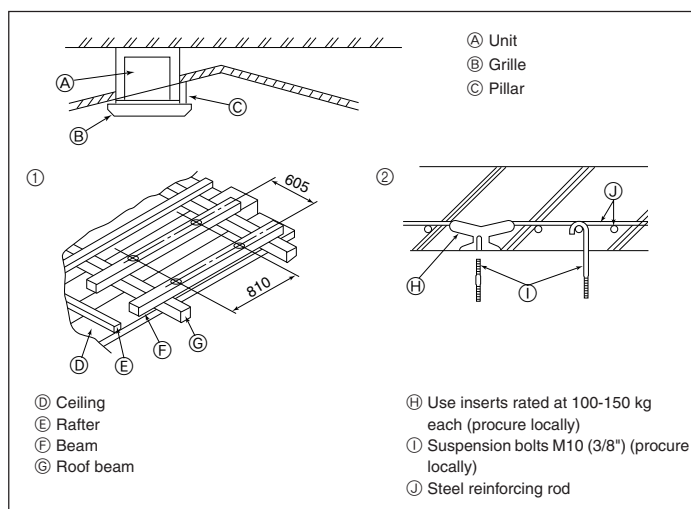

Fig. 3-4
3.4. Suspension structure (Give site of suspension strong structure) (Fig. 3-4)